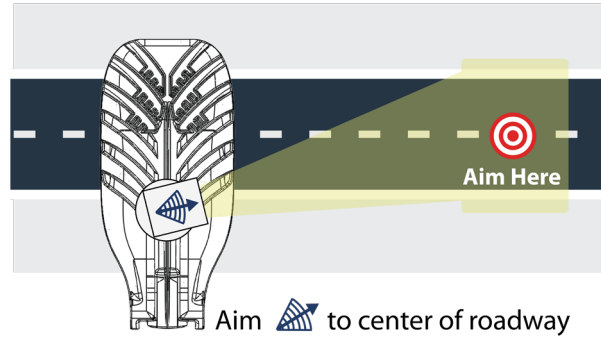

Fig. 6 – Optional Aiming
- (3) Spin the sensor module and then aim the “Arrow” to the road as shown in Fig. 5 or Fig. 6 to maximize the detection area and increase sensor accuracy. Contact the manufacturer for site selection best practices.